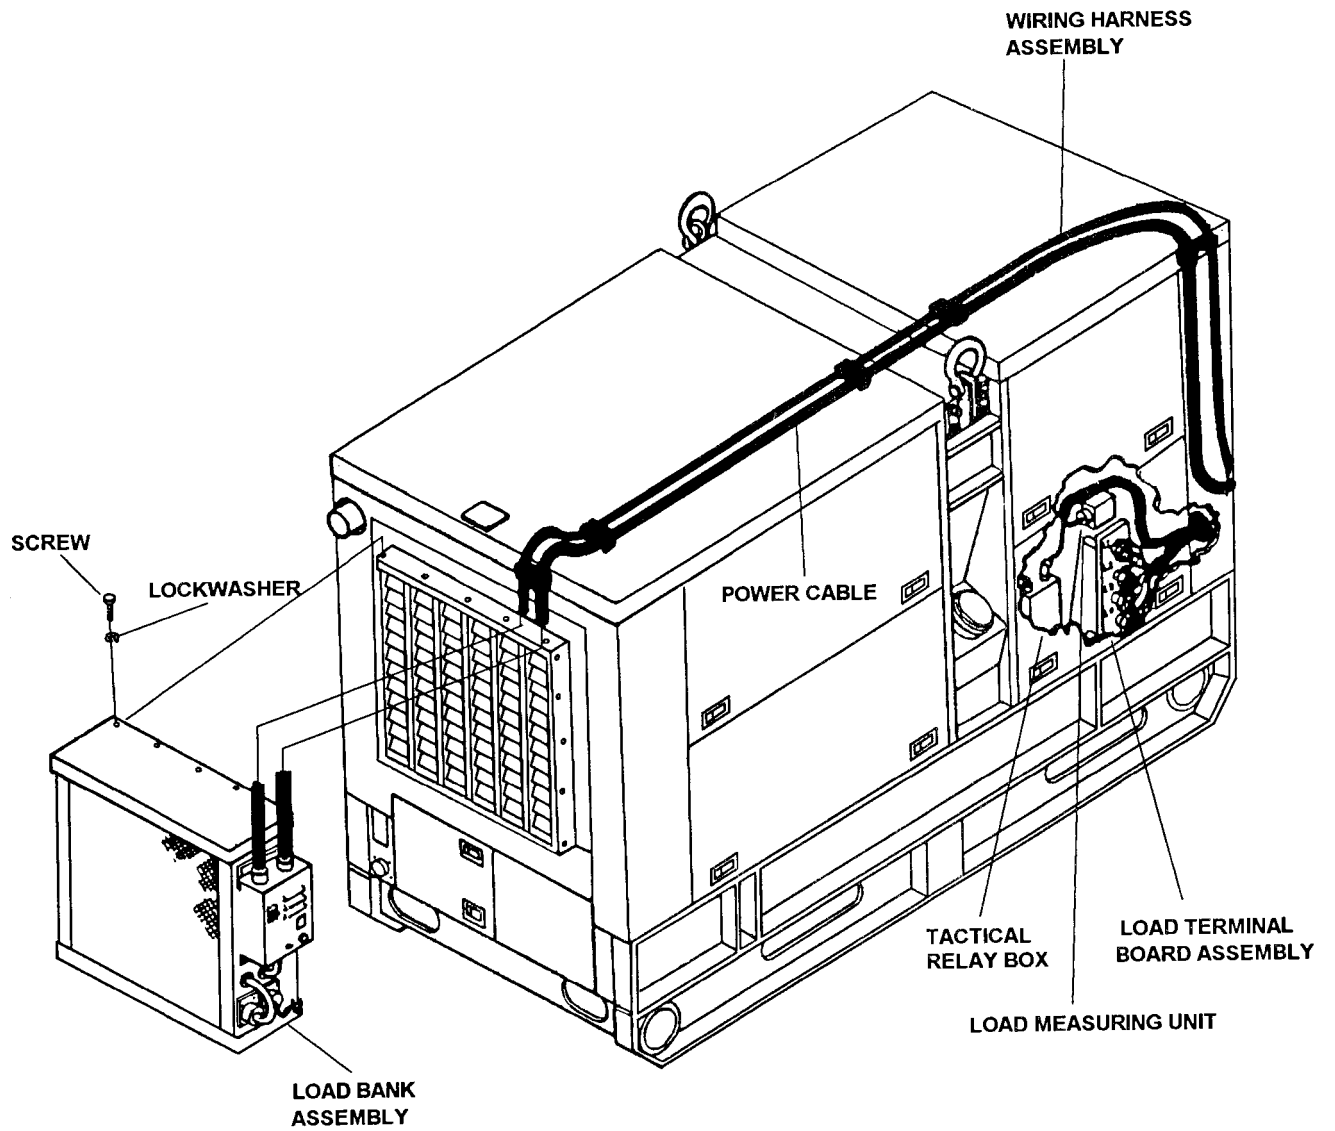

Figure 5-11. Load Bank Installation
- (1) Install load bank assembly (Figure 5-11) onto generator set radiator grille and secure with screws and Lockwashers.
- (b) Remove screws (Figure 5-11) and lockwashers to remove load bank assembly.
- (2) Installation. Install load bank as outlined in paragraph 5-21a. above.
- a. Visually inspect wiring harness assembly (Figure 5-11) for frayed or burned insulation, loose support clamps and connections or other damage.